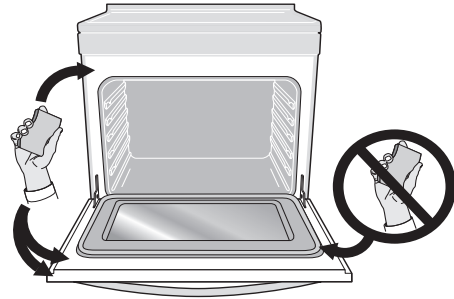

Figure 16: Clean around the oven door gasket
9. Wipe oven cavity and bottom. Do not clean oven door gasket (Figure 16). Avoid leaning or resting on the oven door glass while cleaning cavity.